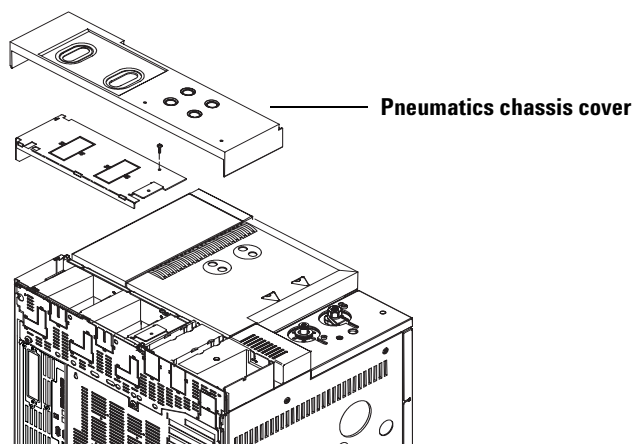

Figure 55 Pneumatics chassis cover
- 2 Remove the pneumatics chassis cover by lifting up on each end to release the clips and remove the cover. See Figure 55.